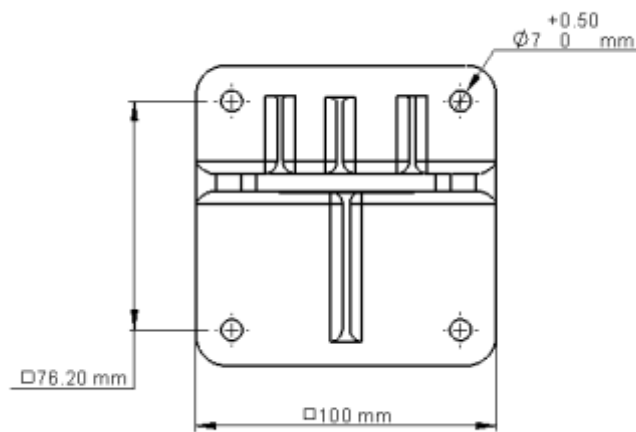

Figure 11: Tilt Mount Base - Front View
- a) Mount the tilt mount base (Figure 11: Tilt Mount Base - Front View) to a solid structure using four suitable fixings through the four 7mm (0.28") diameter holes. Four captive screws with spring washers are provided in the tilt mount.